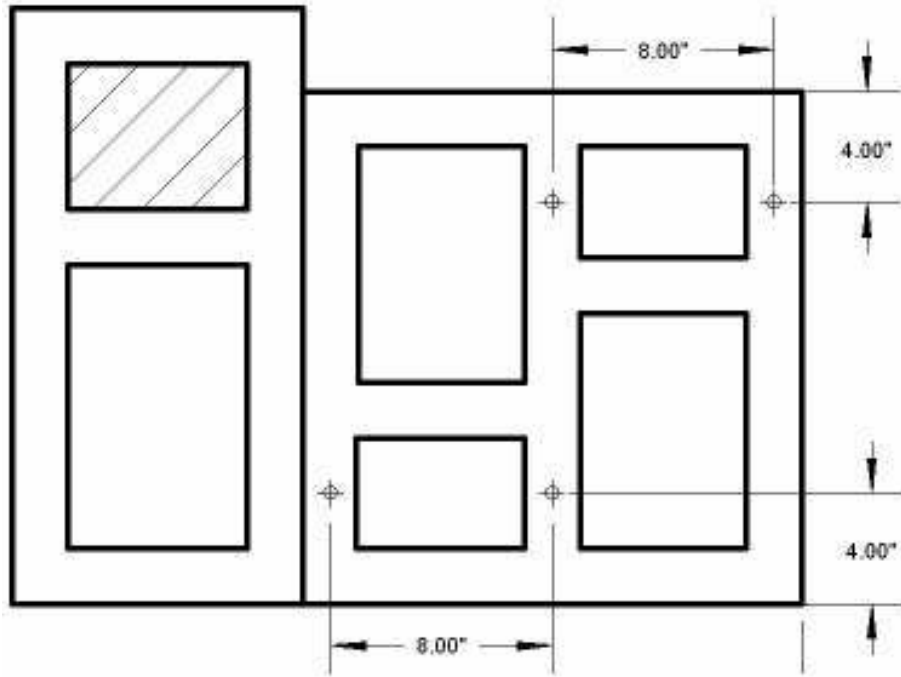

Figure 2 - Location of Cross Slide Mounting Holes
- Figure 2 - Location of Cross Slide Mounting Holes . . . . . 3